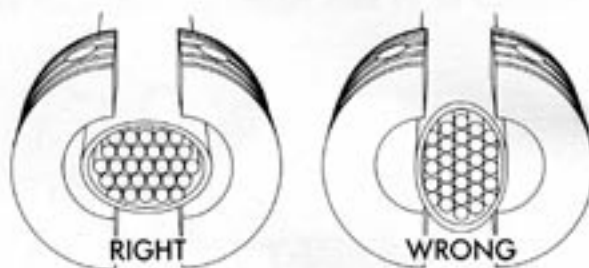

Figure 23 — Shaping Cable
9.05 Before applying End Plates, oval cable slightly to prevent pinching sheath and apply End Plates over oval as shown in Figure 23.